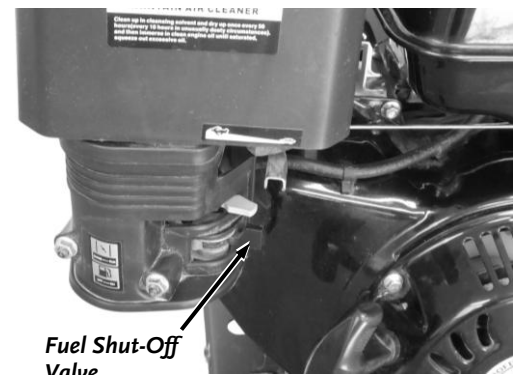

Figure 13
3. Ensure that the Fuel Shut-Off Valve is in the “ON” position (**Figure 13**).
1. Ensure that the Fuel Shut-Off Valve is in the "ON" position (**Figure 13**).
**Note:** Close the Fuel Shut-Off Valve when transporting or storing the machine (**Figure 13**).